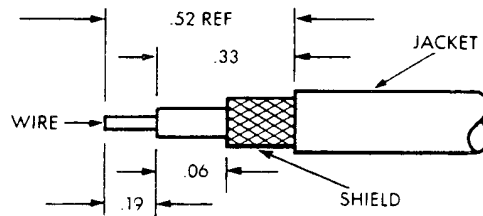

FIGURE 4
- Prepare cable for BNC connector by stripping adequate amount of insulation from outer shield and center conductor. See Figure 4.